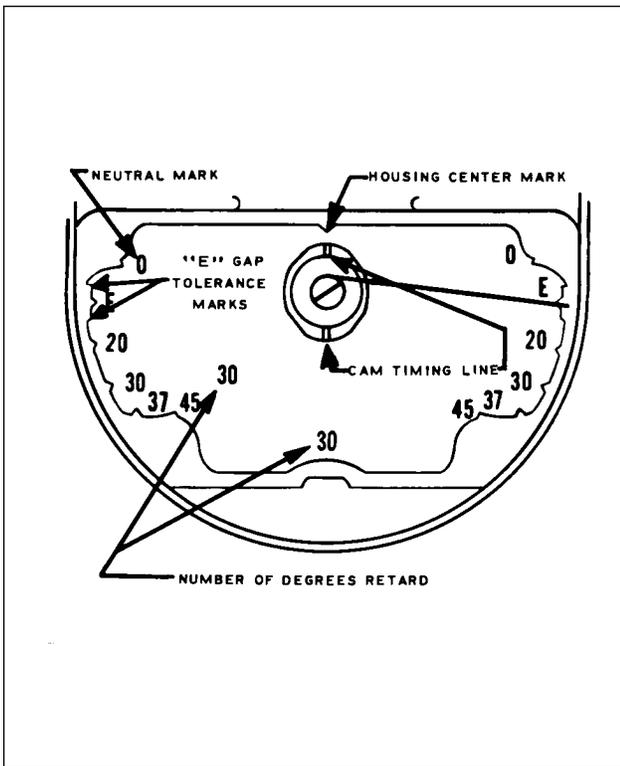

Figure 74-8. Cast-In Timing Marks
2. The internal timing can be checked without a timing kit using the cast-in marks in the breaker compartment. These marks indicate "E" gap and limits (refer to Figure 74-8). The point in the center of the "E" gap boss indicates the exact "E" gap position. The width of the boss on either side of the point is the allowable tolerance of $\pm 4^\circ$. In addition to these marks, the cam has an indented line across its end. When the indented line is aligned with the mark at the top of the breaker housing, the rotating magnet is in its "E" gap position. Check the timing using the following procedure:
- B. Turn rotating magnet in direction of rotation until painted chamfered tooth of distributor gear is just becoming visible in timing window. Continue turning rotating magnet until line on end of cam is aligned with mark at top of breaker housing. (Refer to Figure 74-8.) Tighten adjusting knob of the holding tool to hold rotating magnet.